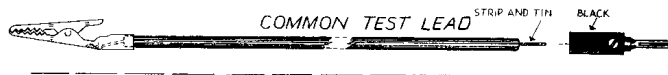

Fig. 12
(4) Common test lead. The common test lead is made by connecting the black banana plug (V39) on one end of the black test lead (V45), and an alligator clip (V44) on the other. Figure 12 shows the detail.